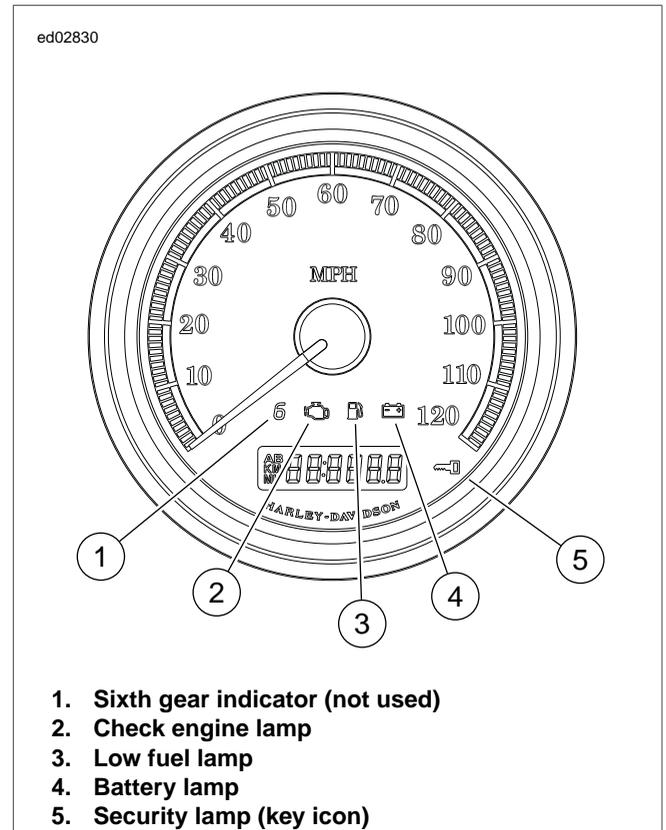

Figure 4-7. Speedometer
- For a quick check of speedometer function, a "WOW" test can be performed. See Figure 4-8. Press and hold trip odometer reset switch then turn Ignition Switch ON. Release trip odometer reset switch. See Figure 4-7. Background lighting should illuminate, speedometer needle should sweep its full range of motion, and indicator lamps (sixth gear, check engine, low fuel, battery and security) should illuminate.